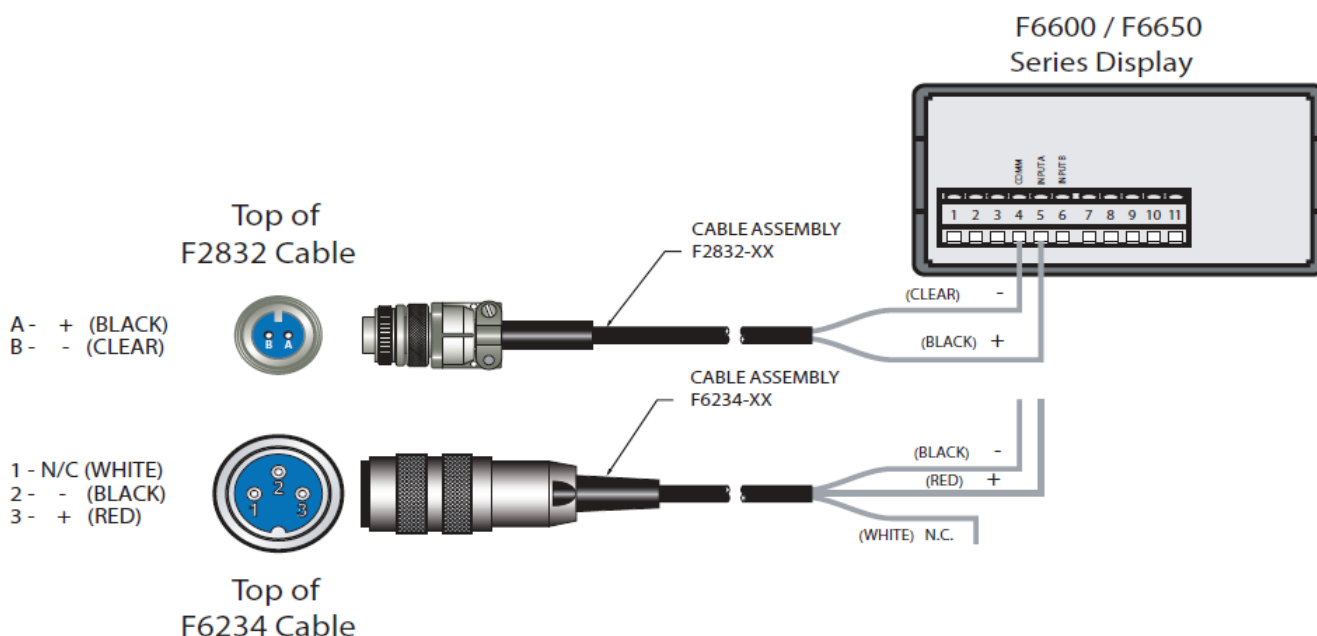

Figure 1: Flo-tech frequency output wiring
- Connect the BLACK wire of the F2832 cable to terminal 5 (INPUT A) and the CLEAR wire to terminal 4 (COMM) on the F6600 series display. See Figure 1.
- Connect the RED wire of the F6234 cable to terminal 5 (INPUT A) and the BLACK wire to terminal 4 (COMM) on the F6600 series display. See Figure 1. The WHITE wire is not used.